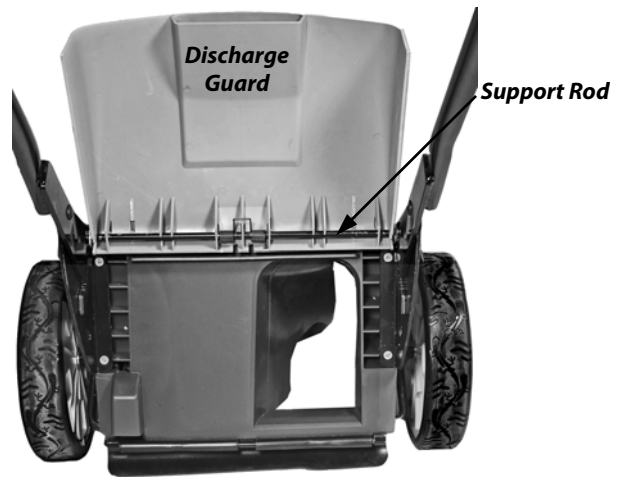

Figure 10
1. Raise the Discharge Guard on your Mower (**Figure 10**) and note the metal Support Rod at the rear of the Mower.